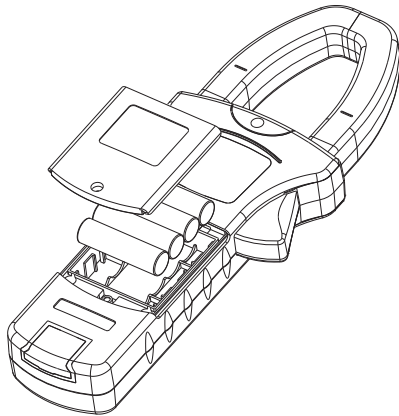

Figure 11
B. Replacing the Battery (see figure 11)